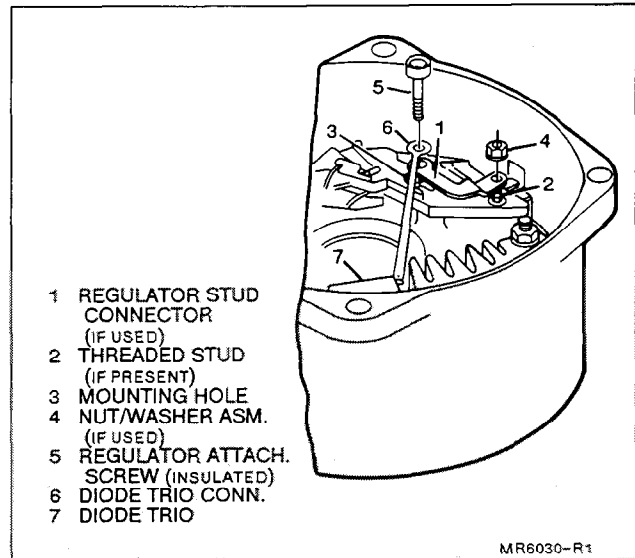

Figure 30. Regulator Connector, 3-wire System
18. For some 3-wire systems (Fig. 30), regulator stud connector onto threaded stud on regulator, positioning other end over brush holder mounting hole. Regulator nut to threaded stud on regulator (finger tighten).